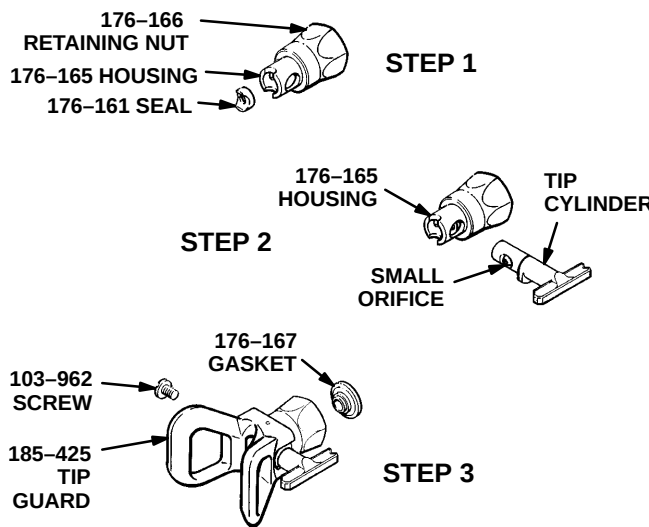

Fig. 2
1. Insert housing 176–165 into retaining nut 176–166 through the back and pull it all the way forward. Install the metal seal 176–161 in the housing, flat side first. See Fig. 2, Step 1.
2. Install the tip cylinder in the housing with the small orifice facing forward. See Fig. 2, Step 2.
3. Snap the tip guard 185–425 into place. Insert the screw 103–962 and tighten. Install the white gasket 176–167 in the housing. See Fig. 2, Step 3. Install the assembled HD RAC onto the spray gun nozzle, using a wrench on the tip guard retaining nut.